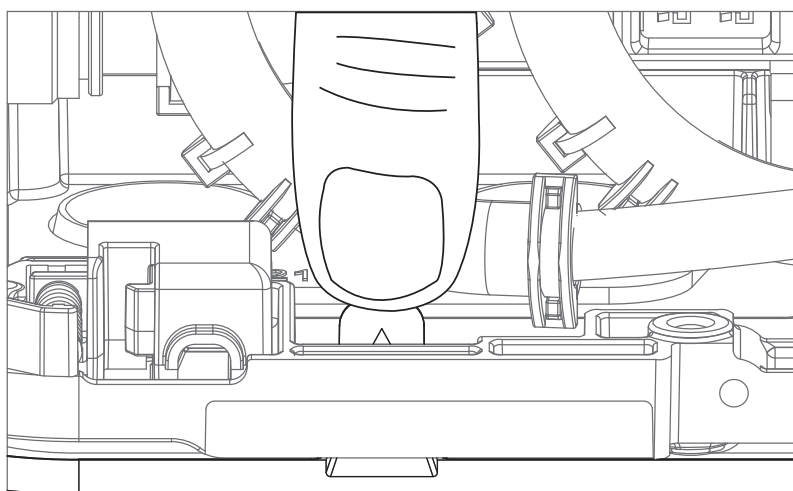
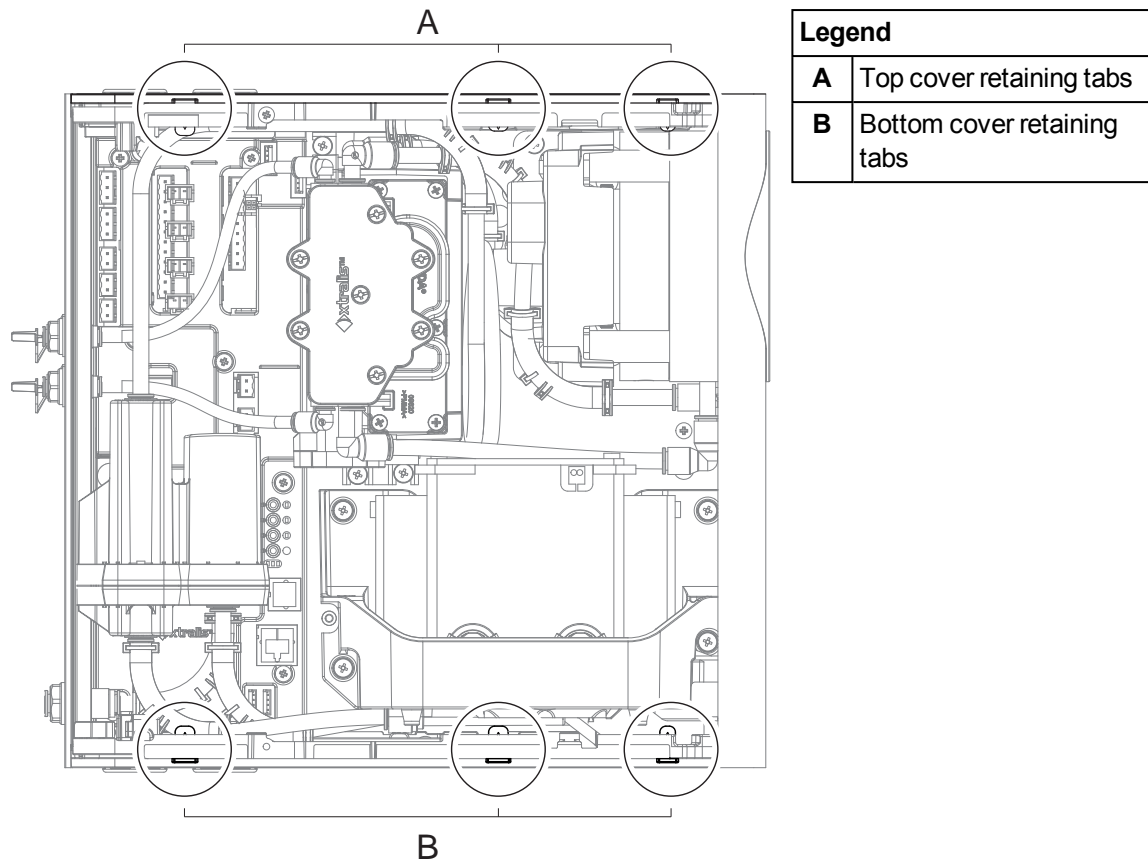

Figure 7-8: Tabs
Figure 7-9: Tabs used to remove top and bottom cover
5. Remove the top and bottom covers by pressing the tabs (Figure 7-8 and Figure 7-9).